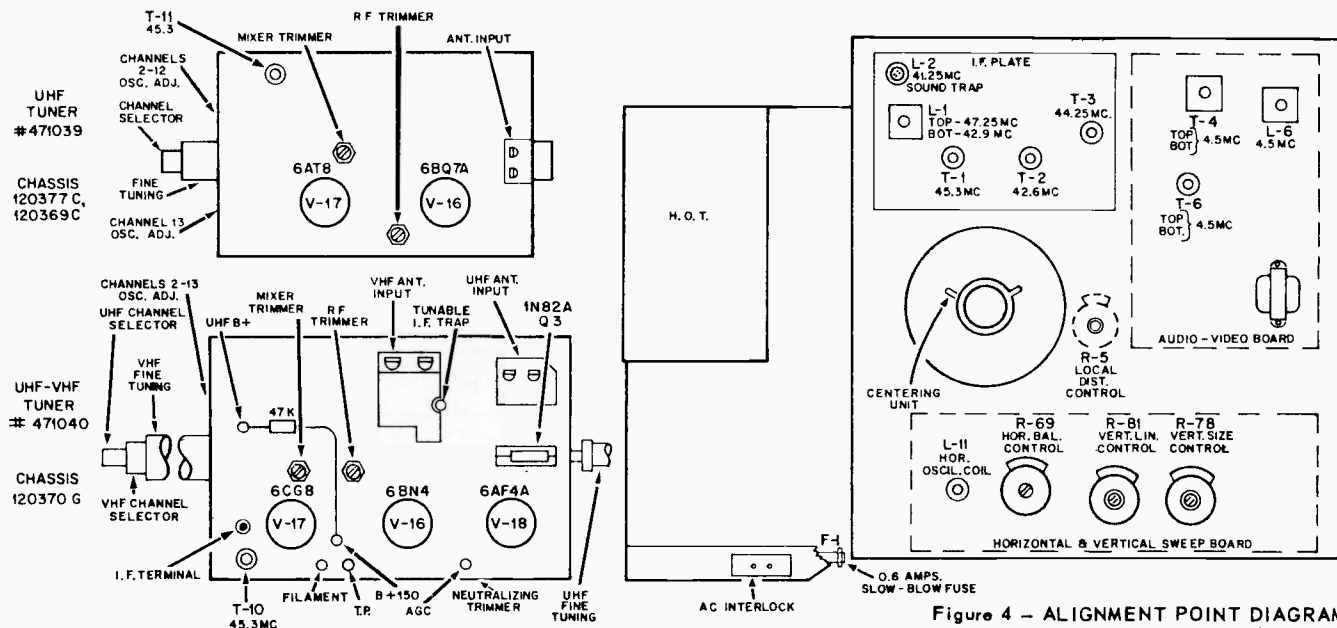

Figure 4 - ALIGNMENT POINT DIAGRAM
4.5 MC VIDEO TRAP ALIGNMENT, T-6 Top (See Fig. 4)
SOUND IF ALIGNMENT (See Fig. 4)